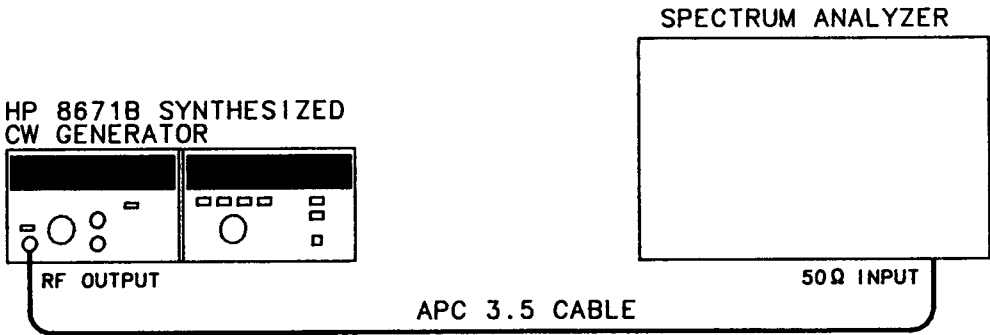

Figure 4-10. Non-Harmonically Related Spurious Signals Test Setup
1. Connect the CW Generator’s RF OUTPUT to the input of the spectrum analyzer as shown in Figure 4-10.